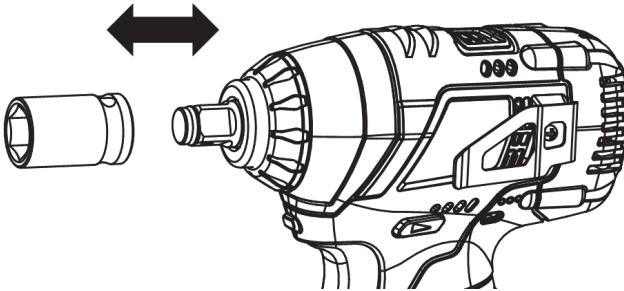

Fig. 4
1. Insert a socket into the anvil. (see Fig. 4)
Always follow the procedure below to remove a socket. Pull out the socket from the anvil directly. (see Fig. 4)